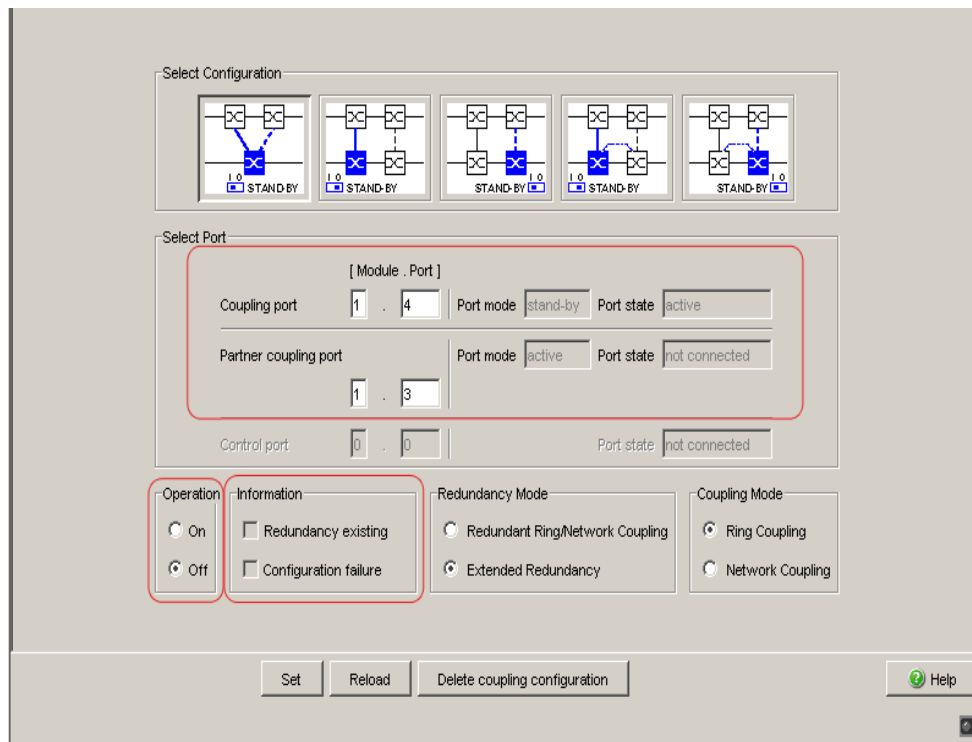

Figure 22: Selecting the port and enabling/disabling operation
- Select the partner coupling port (see fig. 22), (see table 11). With "Partner coupling port" you specify at which port you are connecting the main line.
The displays in the “Select port” frame mean (see fig. 22):
The displays in the “Information” frame mean (see fig. 22):